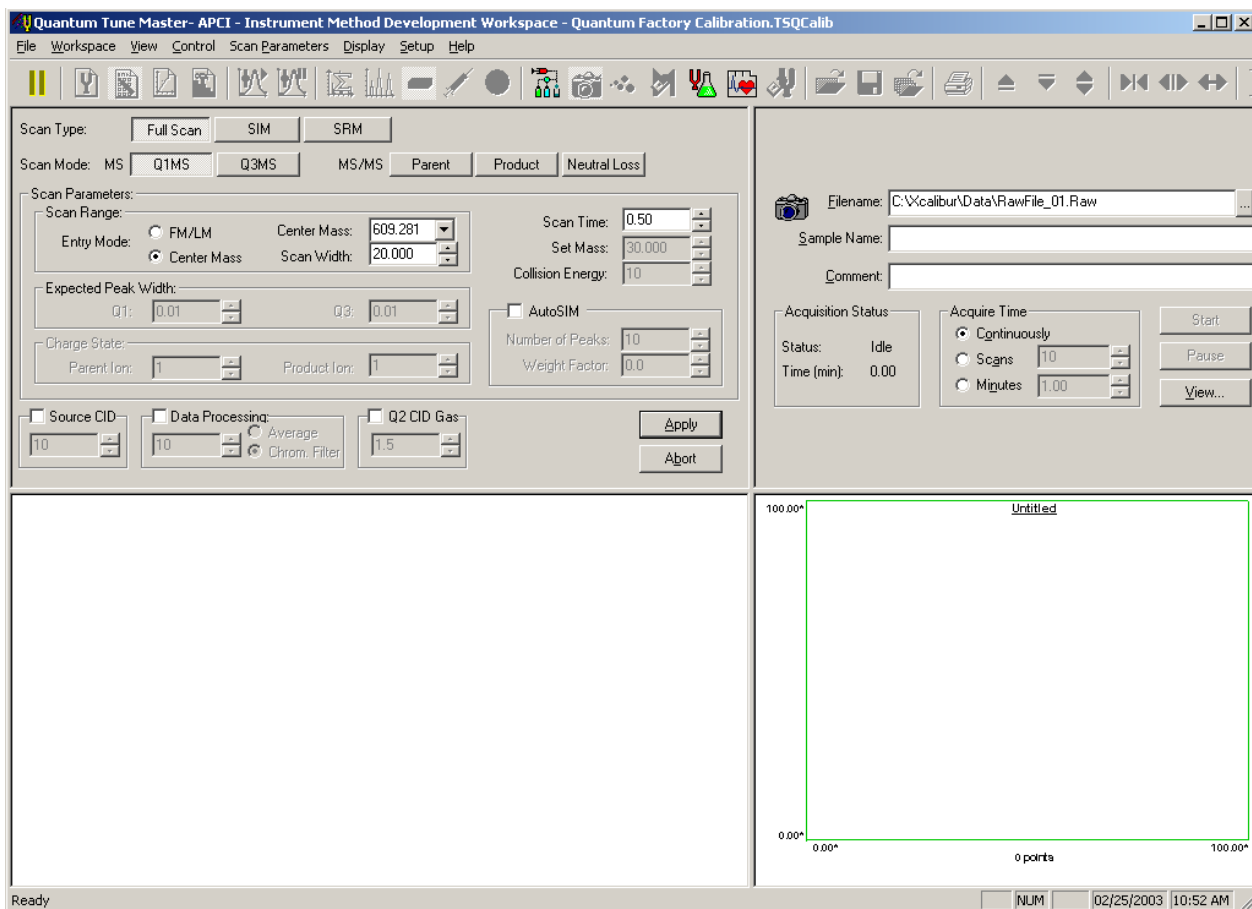

Figure 2-1. Tune Master window – Instrument Method Development workspace, showing the mass spectrometer in the Standby mode
2. If Tune Master is not already open, choose **Start > Programs > Xcalibur > Quantum Tune** from the taskbar to open Tune Master. See Figure 2-1.